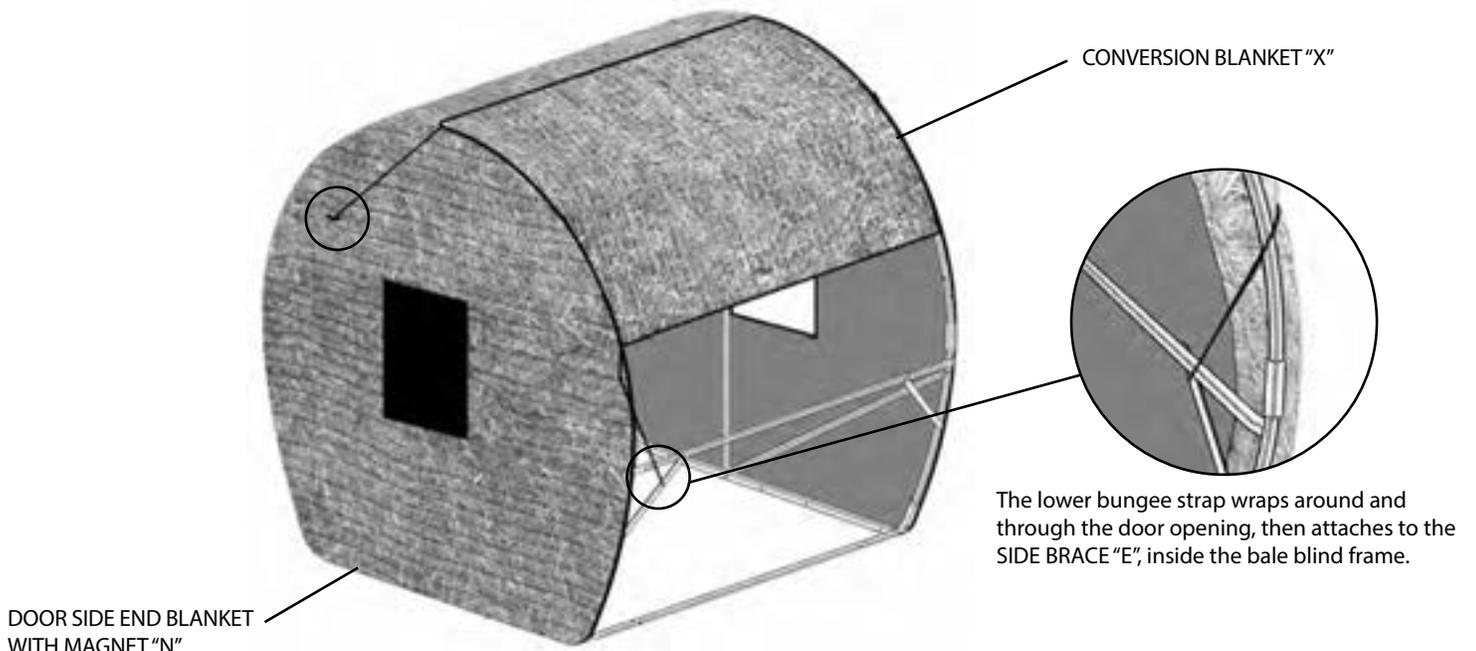

Figure 35.1
Place the (1) CONVERSION BLANKET "X" on top of the bale blind. On the door side of the blind, attach the top bungee strap of the CONVERSION BLANKET "X" to the designated bungee strap hoop located on the DOOR SIDE END BLANKET WITH MAGNET "N", as illustrated in Figure 35.1. Attach the lower bungee strap of the CONVERSION BLANKET "X" to the SIDE BRACE "E" in frame Section 1, on the interior of the bale blind frame as illustrated in Figure 35.1.